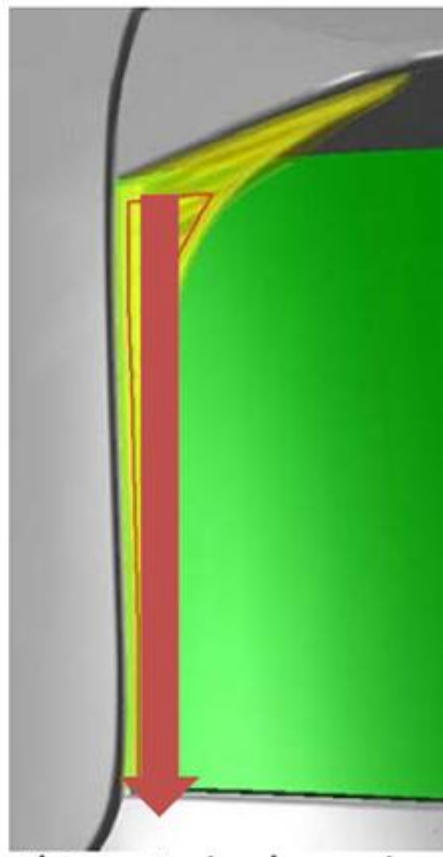

Figure 2: Apply primer and wipe in one direction
5. Directly after applying the primer, use a microfiber cloth to wipe off the primed surface in one swipe as shown in Figure 2 (**wipe in one direction only**).